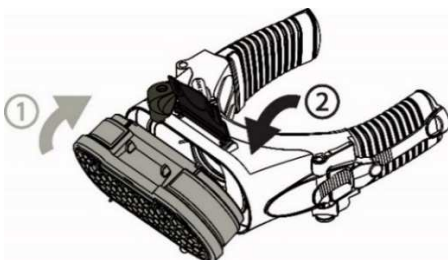

Figure 30 – Fitting a new HE filter
- Hold the new filter so that the blue seal is facing the adaptor. Locate 2 ribs on the filter body into the slots in the top of the filter adaptor and rotate the filter into place. See Figure 30.
- Snap the latch firmly over the 2 ribs on the bottom of the filter body. You will hear 2 clicks when the filter is positioned correctly. **Note: The latch lock will move to one side automatically.** See Figure 30.